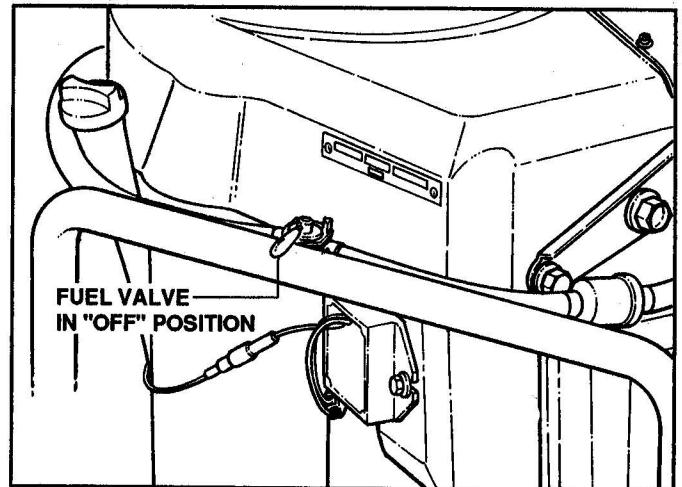

FIGURE 3.11
1. Turn fuel valve to "OFF". See Figure 3.11.